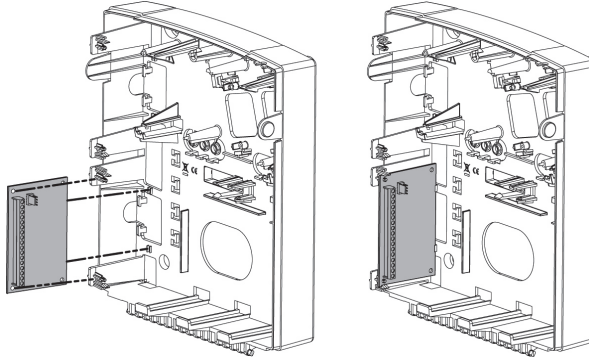

Figure 3-3: Zone Expander mounting location inside the LightSYS™2 box
4. Mount the Utility Output Expansion Modules in the main panel cabinet, depending on space availability or in a separate cabinet (see Figure 3-3) .